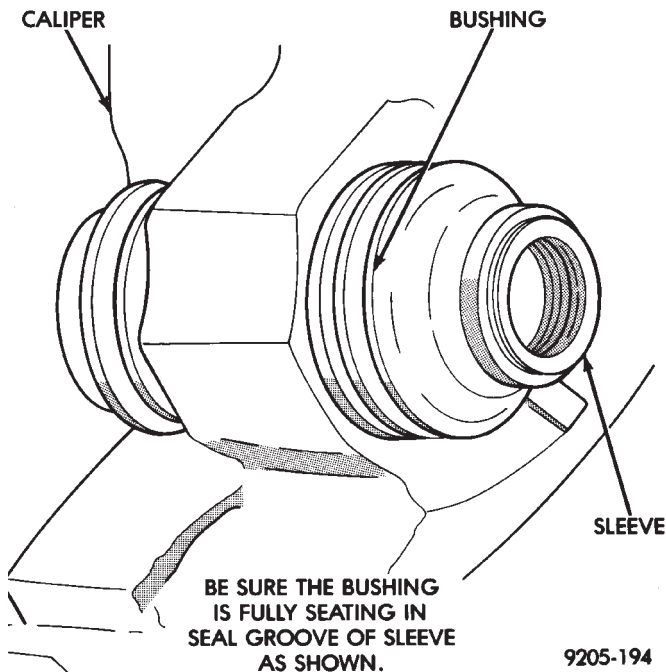

**Fig. 159 Correctly Installed Caliper Sleeve And Bushing**
(7) Holding sleeve in place, work other end of bushing over end of sleeve and into the seal groove on sleeve (Fig. 159). Be sure other end of bushing did not come out of seal groove in sleeve.
(8) When the sleeve is seated properly into the bushing, the sealed for life sleeve/bushing can be held between your fingers and easily slid back and forth without the bushing unseating from the sleeve groove.